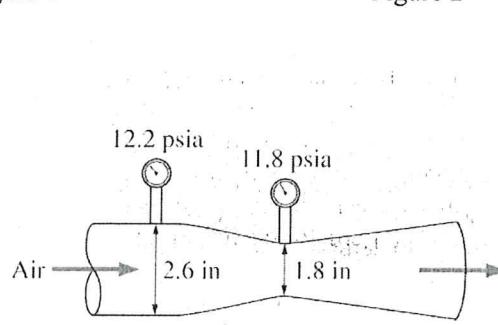

Figure 5
- Air is flowing through a venturi meter whose diameter is 2.6 in at the inlet and 1.8 in at the throat. The gage pressures are measured as shown in figure 5. Neglecting frictional effects, determine the volume flow rate of air. Take air density to be 0.075 lbm/ft³.